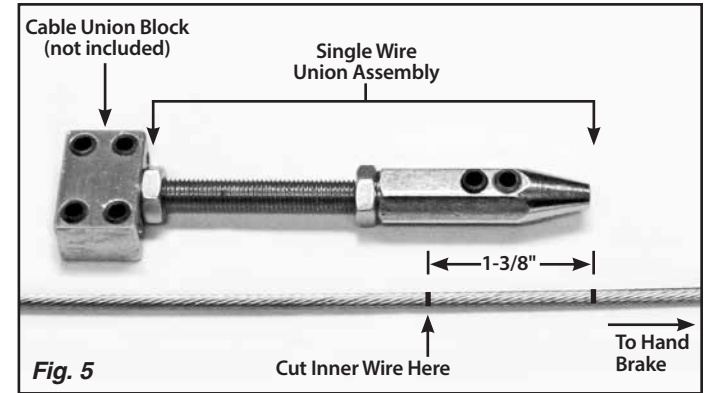

Fig. 5
Step 12: Measure 1-3/8" further towards the rear end of the inner wire and make a second mark. Cut the inner wire at the second mark, so that approximately 1-3/8" of the inner wire can be inserted into the single wire union assembly. **Fig. 5**